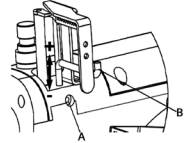

图12 (Fig.12)
2. Adjustment.(Fig.12) The position for Needle thread Take-up Lever (B) is adjustable according to thread used. Loosen screw (A) ,move lever (B) up and down for the optimum position .For instance ,when using high extension thread ,move lever (B) upward to make a bigger needle thread loop for lower to chain easily.